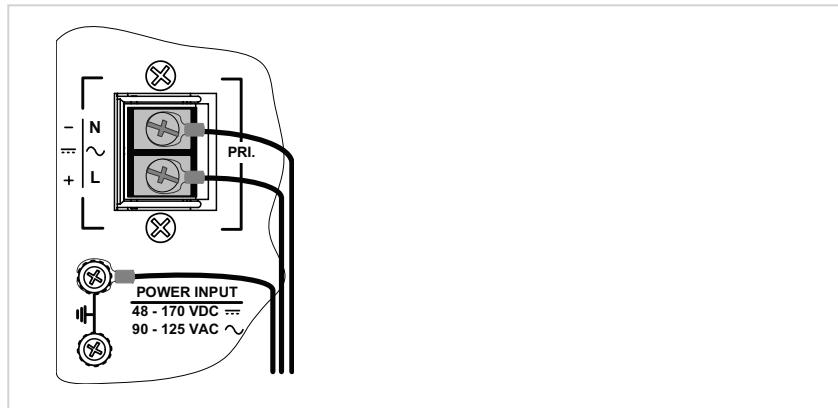

Figure 5: Primary Power Connection
To provide power to the industrial switch via the primary TB, view Figure 5, and then do the following:
2. Loosen the grounding screw and then connect the power source functional-ground lead to the grown screw, as shown in Figure 5. Tighten the screw to secure.
3. Loosen the TB screw marked “-” and then connect the power source neutral or (-) negative lead to the TB negative terminal, as shown in Figure 5. Tighten the screw to secure.
4. Loosen the TB screw marked “+” and then connect the power source line phase or positive (+) lead to the TB positive terminal, as shown in Figure 5. Tighten the screw to secure.